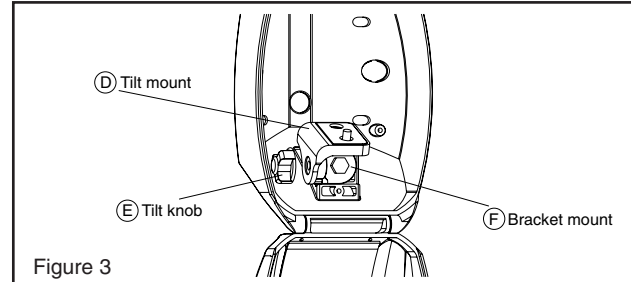

Figure 3
- Loosen the tilt knob (E) on the left side of the bracket mount (F) and remove the tilt mount (D) (Figure 3).